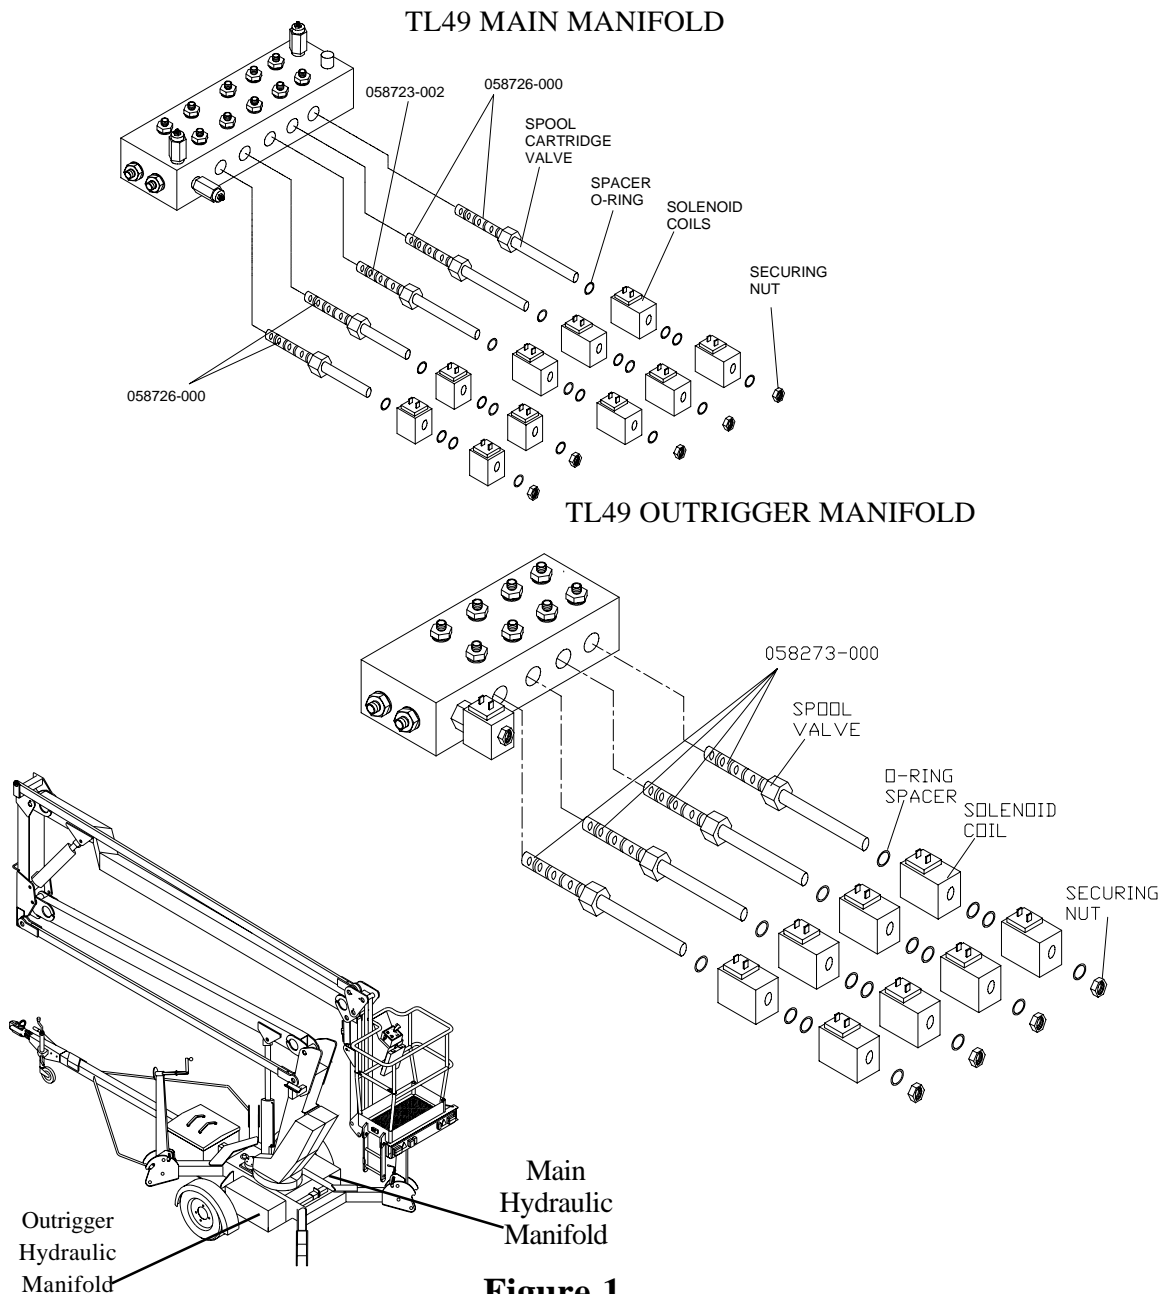

Figure 1
PROCEDURE: Read all instructions thoroughly and refer to Figure 1 on the following page before starting.
3. Remove the Chassis Covers and gain access to the Main Hydraulic Manifold and Outrigger Hydraulic Manifold (see Figure 1).
NOTE: Verify that the correct part number valve is being installed per Fig 1.